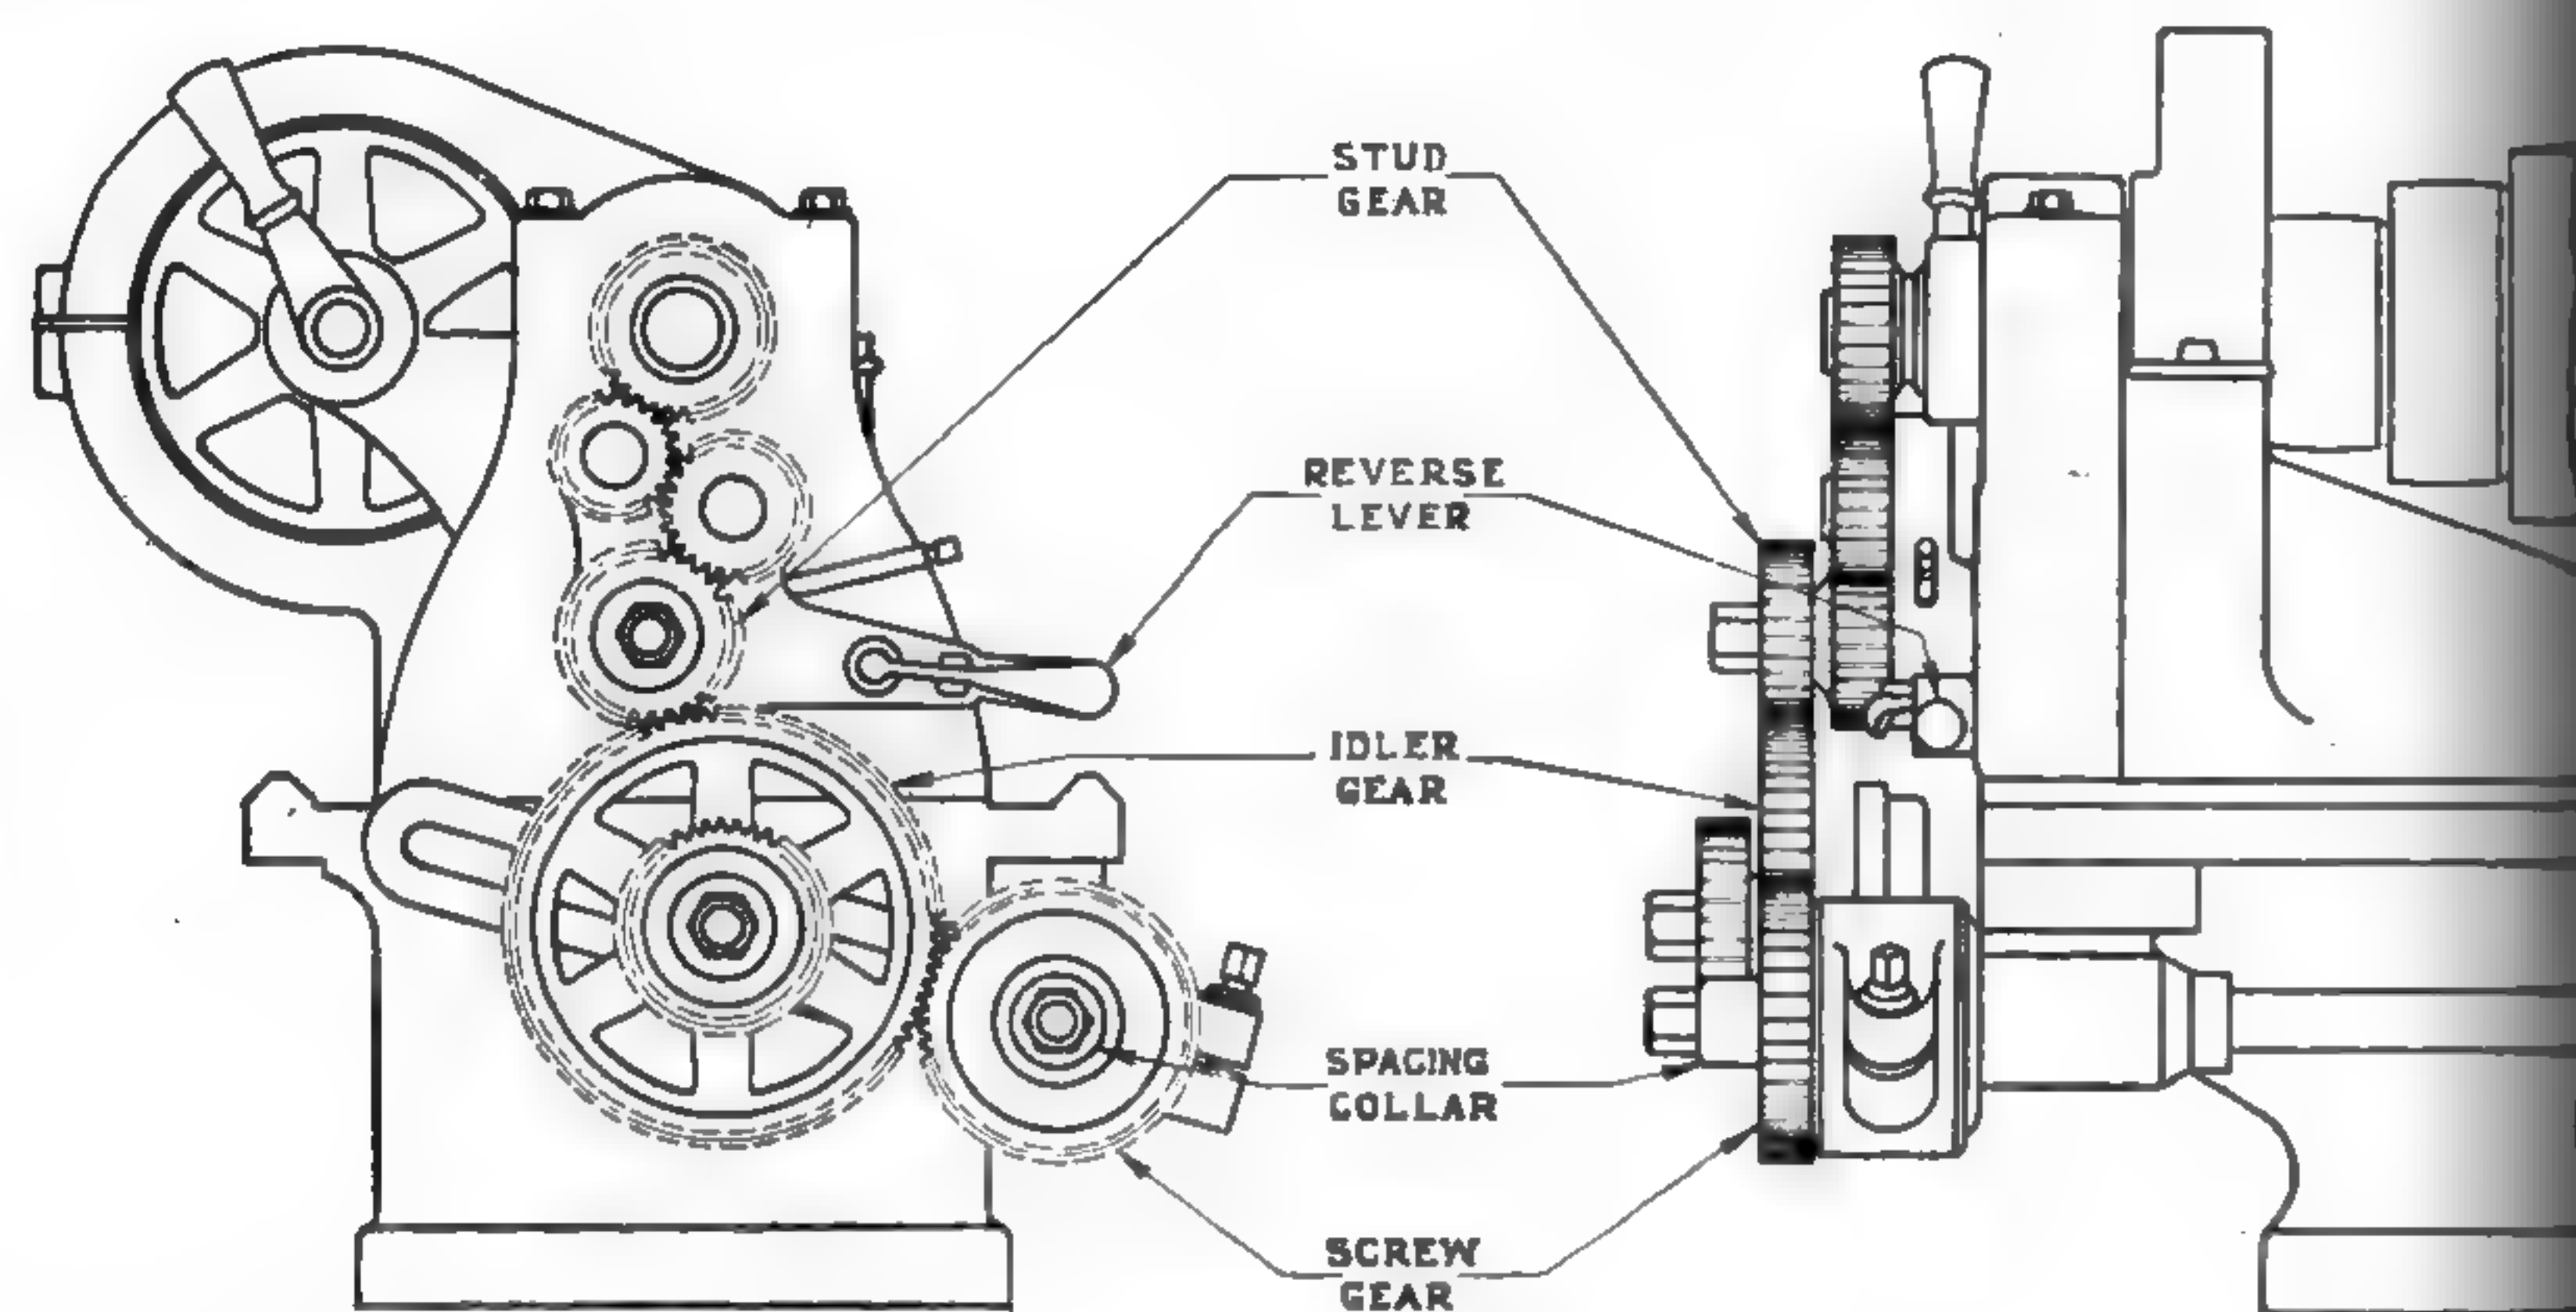

Fig. 561
Simple gearing (as shown in Fig. 561 above) is used for cutting screw threads on 9" and 11" South Bend Lathes. Compound gearing, on these sizes, is used only for turning feeds.
**Simple Gearing** (as shown in Fig. 561, page 92) is used for threads 2 to 20 per inch, listed above the heavy line on index plate.